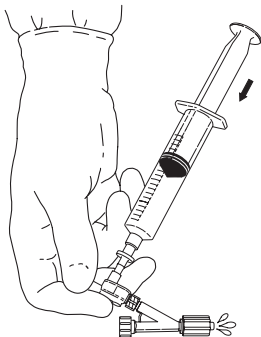

Fig. 3
5. Purge the remaining air by placing a thumb over the injection port. Slowly flush the remaining air bubbles out of the dual check valve and Tuohy-Borst adapter. (Fig. 3)